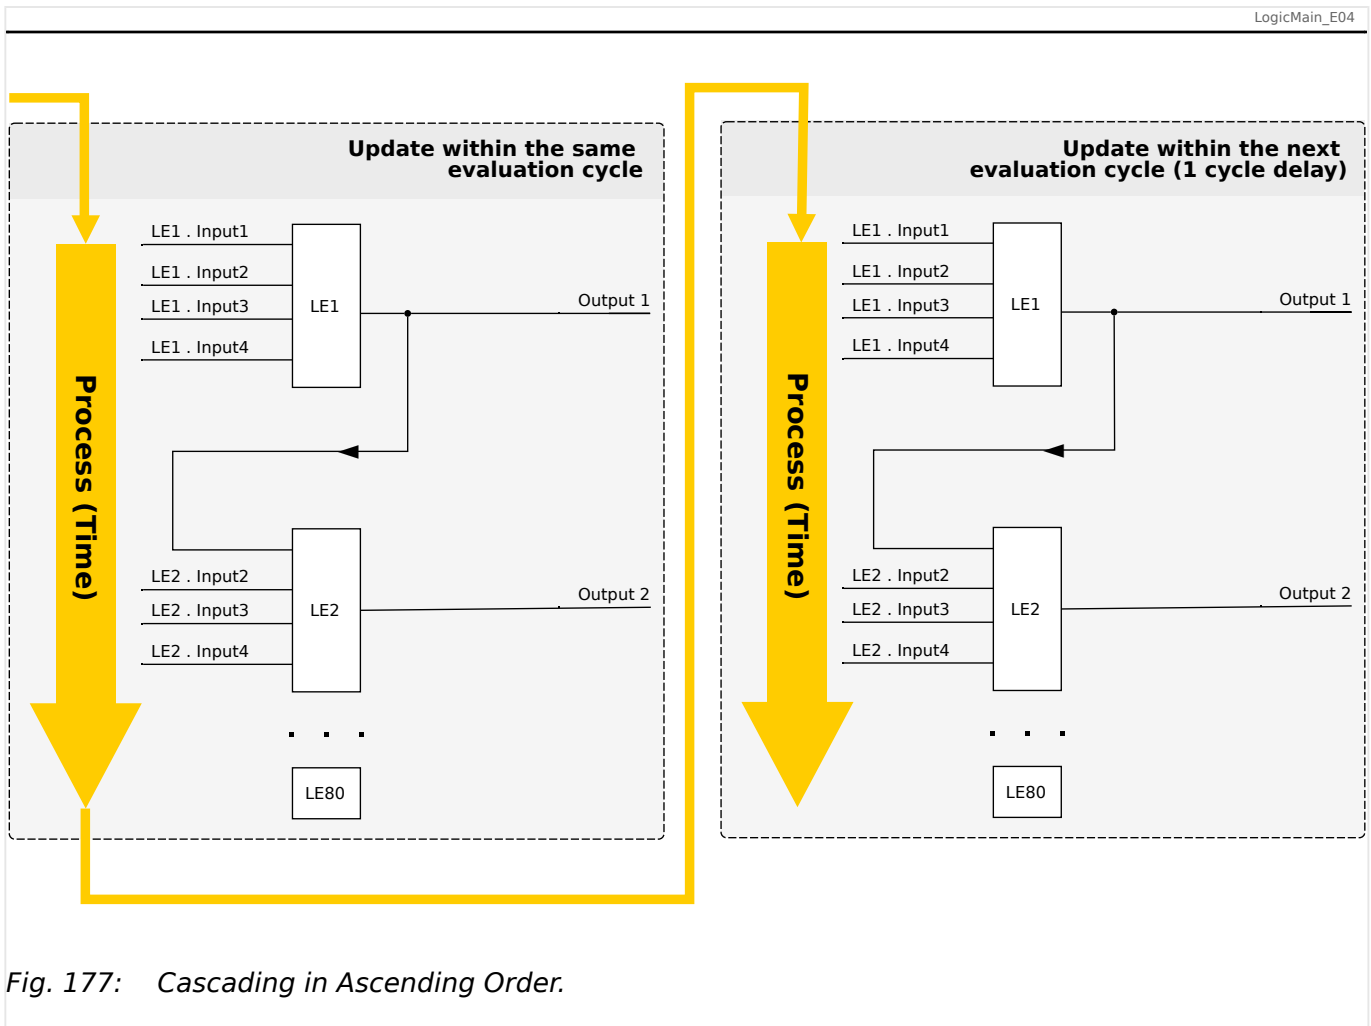
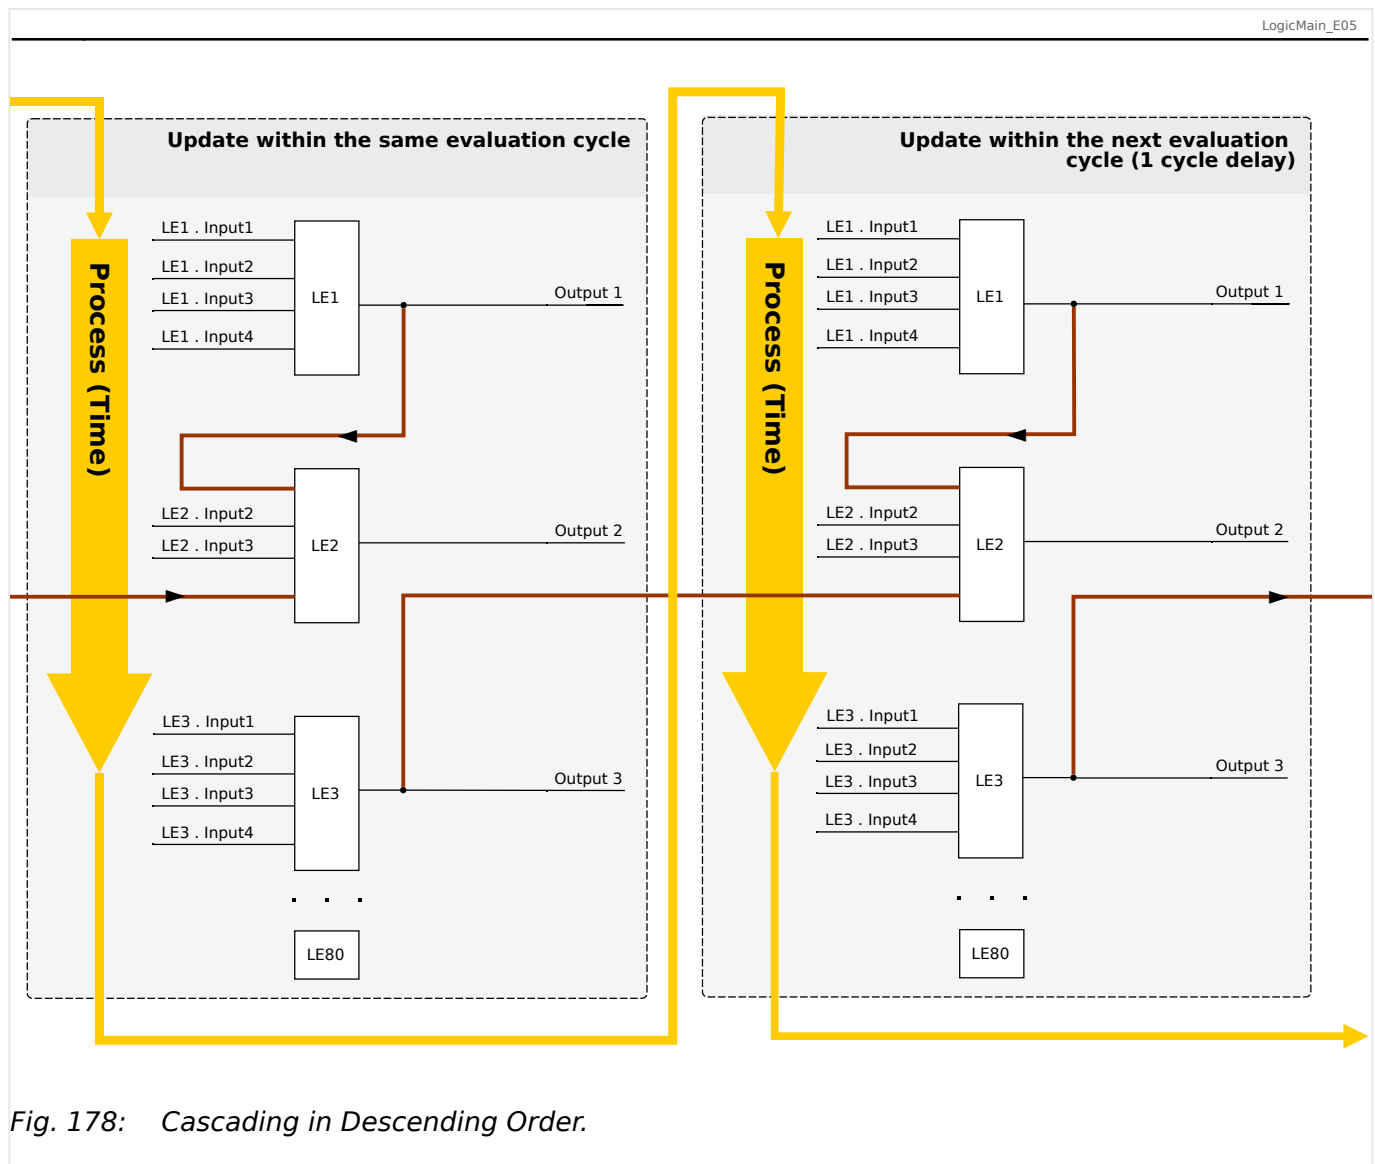

Fig. 177: Cascading in Ascending Order.
Fig. 178: Cascading in Descending Order.
- **Ascending** sequence means that some output is fed into the input of a logic equation with **higher** number. For instance, diagram  Fig. 177 below shows an example where the result of Logic Equation LE1 is used as an input of Logic Equation LE2.
- **Descending** sequence means that some output is fed into the input of a logic equation with **lower** number. For instance, diagram  Fig. 178 shows an example where the result of Logic Equation LE3 is used as an input of Logic Equation LE2.
Both ascending and descending sequences may be used and combined one with the other, with no immediate difference. However, due to the evaluation of all equations in ascending order the actual run-time values that are fed in at the input of an equation will have a different “age”, as is shown in  Fig. 177 and  Fig. 178 below.
In the example shown in Fig. 178 above, “Logic Equation 2” uses the output states of two other equations, “Logic Equation 1” and “Logic Equation 3”. The result of “Logic Equation 1” is used in ascending order and has therefore been evaluated within the same process cycle. The result of “Logic Equation 3” is used in descending order and has therefore been evaluated in the previous process cycle.